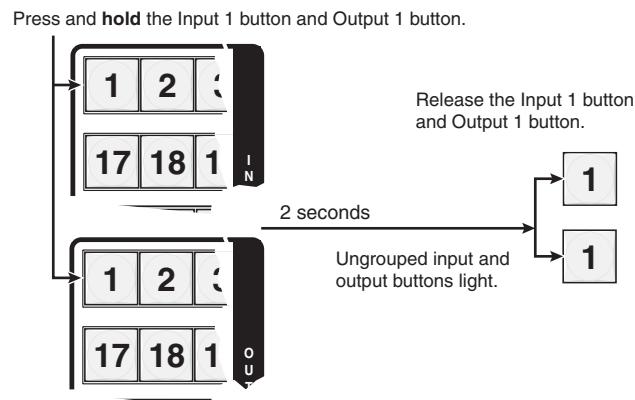

Figure 3-30 — Select I/O Group mode
2. To enter *I/O Group* mode, press and **hold** the Input 1 and Output 1 buttons (figure 3-30).